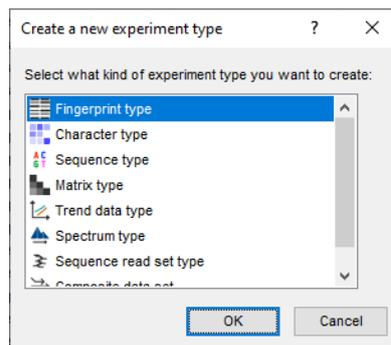

Figure 4: The *Create a new experiment type* dialog box.
8. In the *Main* window, click on **+** in the toolbar of the *Experiment types* panel and select **Fingerprint type** from the list (see Figure 4).